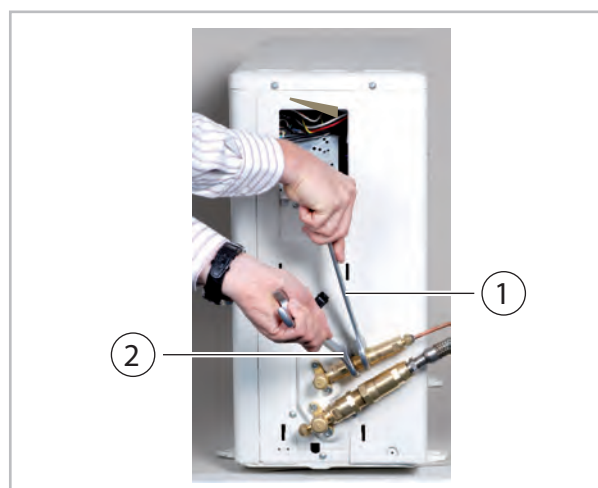

Fig. 33: Tightening the fitting
6. ➤ Then tighten the fittings with 2 appropriately-sized open-ended spanners. Use one spanner to counter the force when tightening the fitting (Fig. 33).